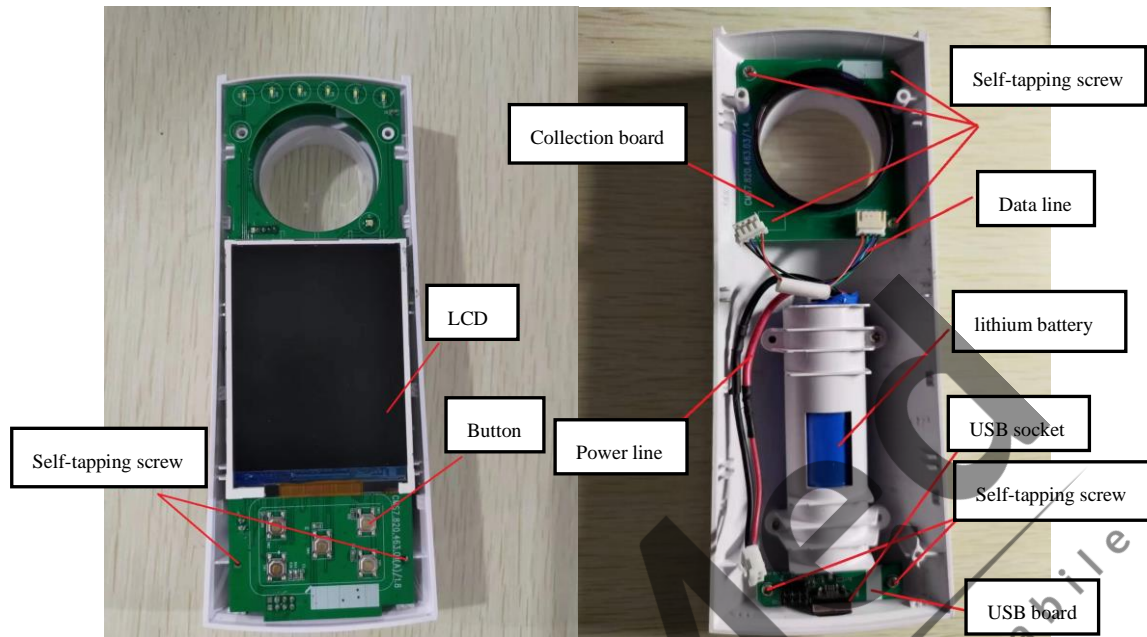

Figure4-3
3. After opening the enclosure, the internal structure is shown as Figure4-3.
According to following steps and Figure4-3, disassemble modules with a screwdriver.